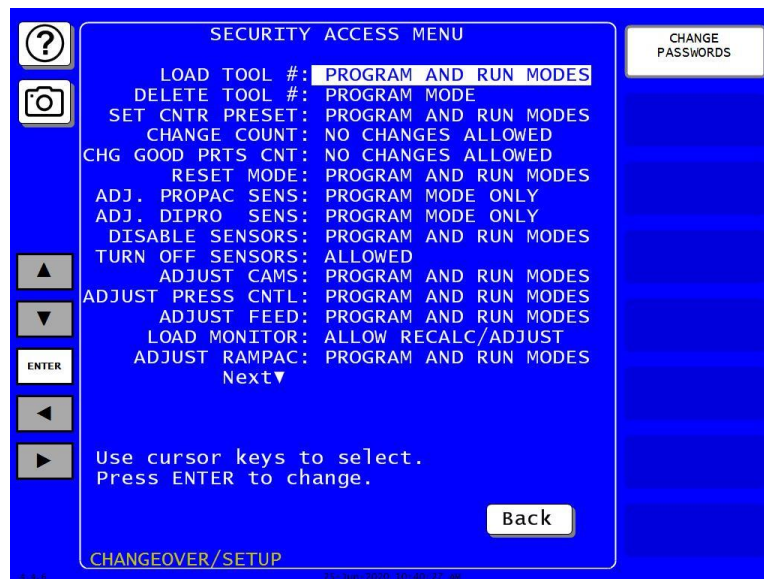
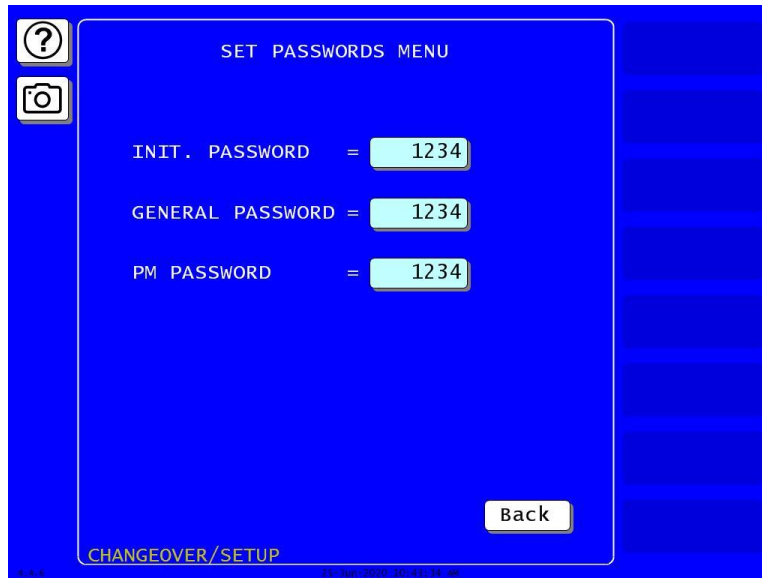

Figure 3-8. Security Access Menu
Figure 3-10. Set Passwords Menu
The SECURITY ACCESS item on the Main Initialization Menu allows you to control user access to SmartPAC PRO operating modes and settings. You set user access on the Security Access Menu, Figure 3-8.
1. Select SECURITY ACCESS on the Main Initialization Menu to display the Security Access Menu, Figure 3-8. Note that the factory settings allow all actions to be performed in both Program and Run modes.
1. On the Security Access Menu, Figure 3-8, page 98 press CHANGE PASSWORDS to display the Set Passwords Menu, Figure 3-10.